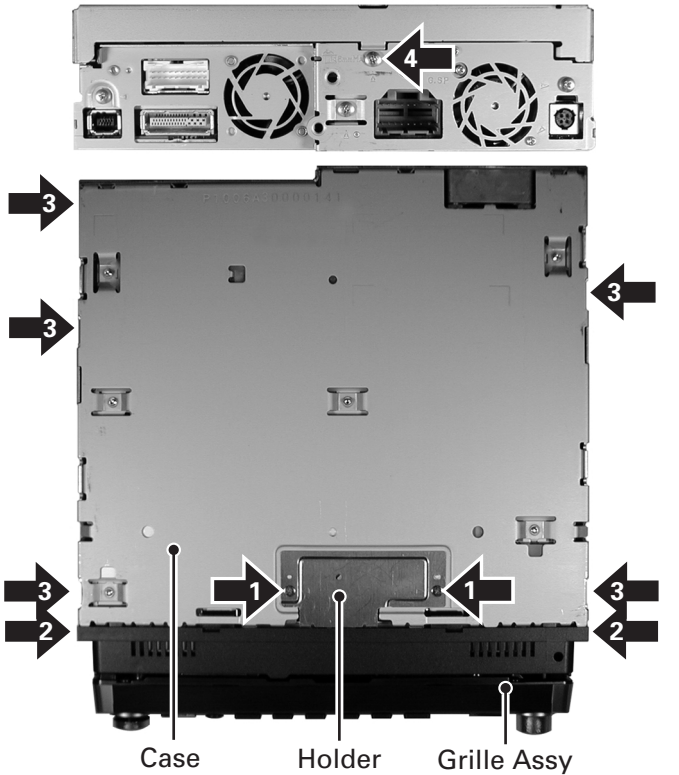

Fig.1
● Removing the Grille Assy (Fig.1)
- ➡ 3 Remove the five screws.(Fig.1)
- ➡ 4 Remove the screw and then remove the Case.(Fig.1)
Remove the Case.(Fig.1)